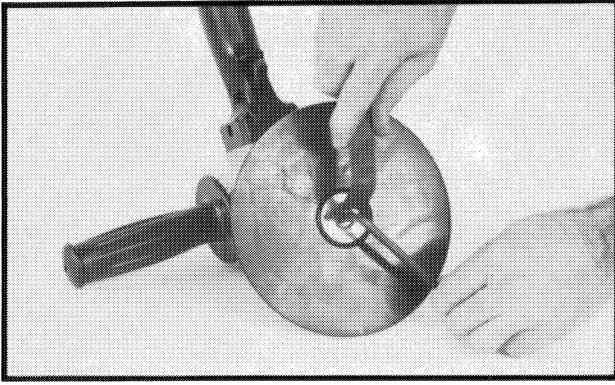

Fig. 3
4. Insert spanner wrench prongs in holes in abrasive disc nut, as shown in Fig. 3.
5. Insert hex wrench in end of spindle, as shown in Fig. 3.
6. Hold spindle with hex wrench while nut is firmly tightened with spanner wrench, as shown in Fig. 3.